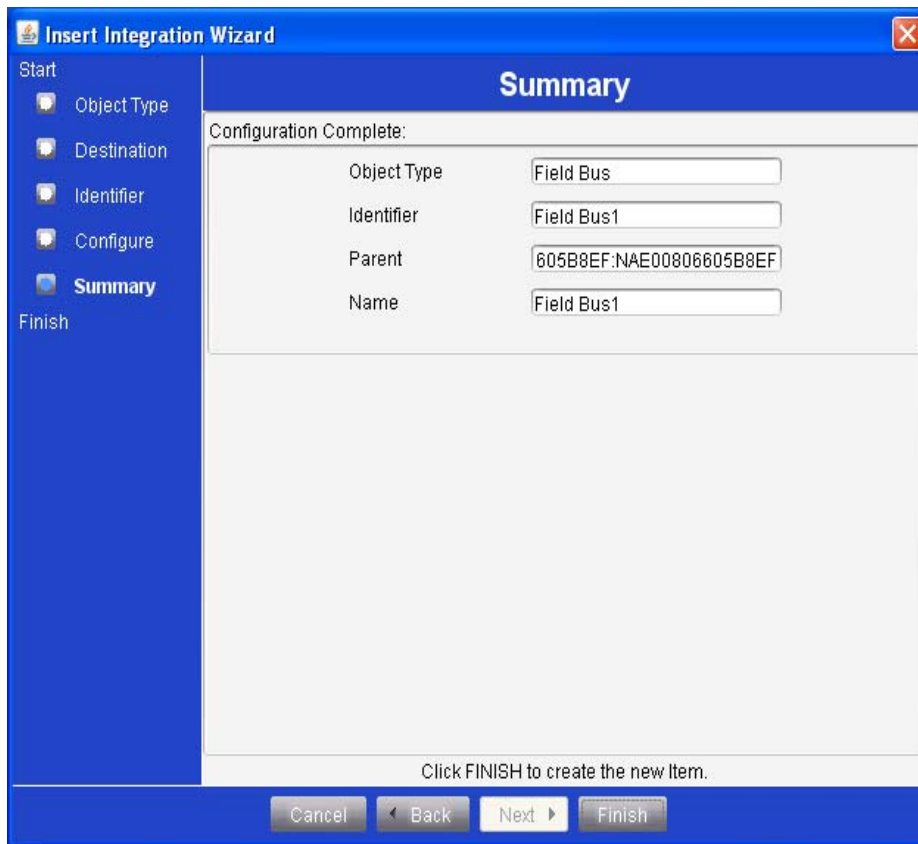

Figure 39: Insert Integration Wizard - Summary Screen
7. Click **Next** to open the **Insert Integration Wizard - Summary** screen (Figure 39).
8. Review the **Summary** screen values (Figure 39):
- Click **Back** to go to a previous screen and edit a value (Figure 39).
- Click **Finish** to save the displayed values (Figure 39).